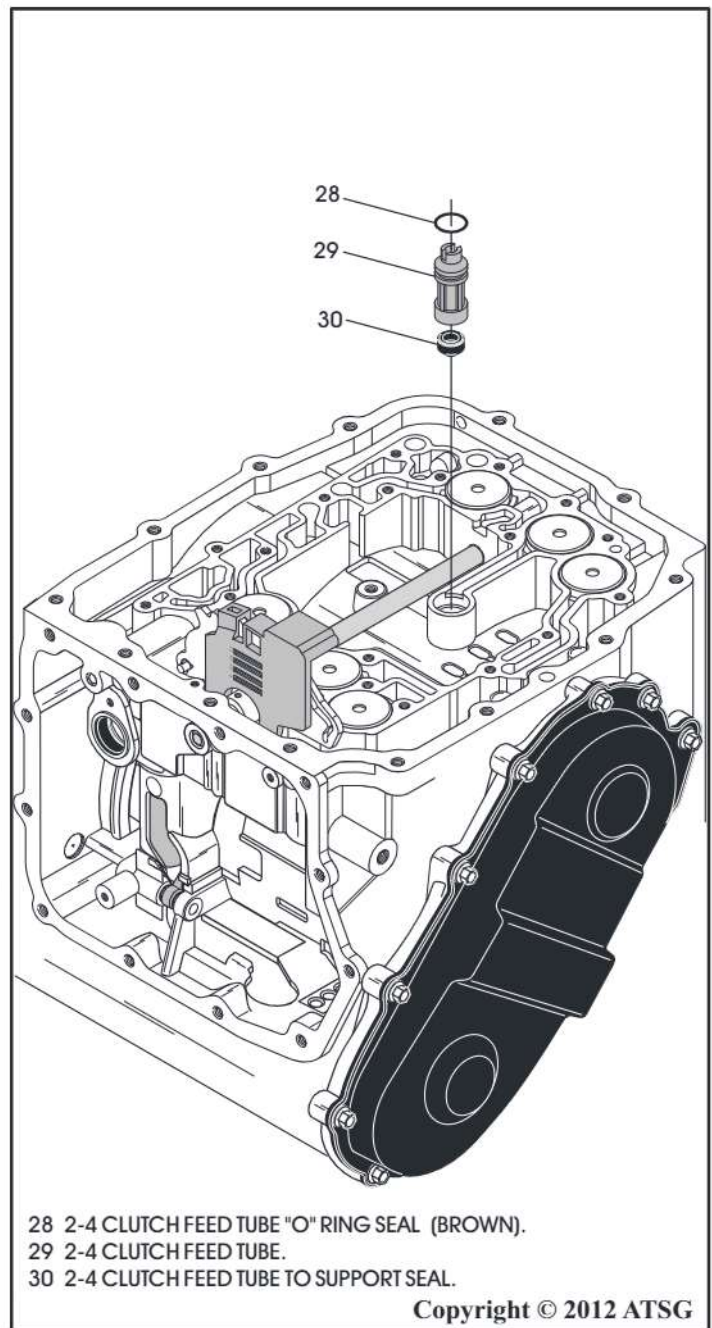

Figure 53
25. Remove the 2-4 clutch feed tube from the case bore, as shown in Figure 53.
26. Remove and discard "O" ring seal and tube to support seal, as shown in Figure 53.